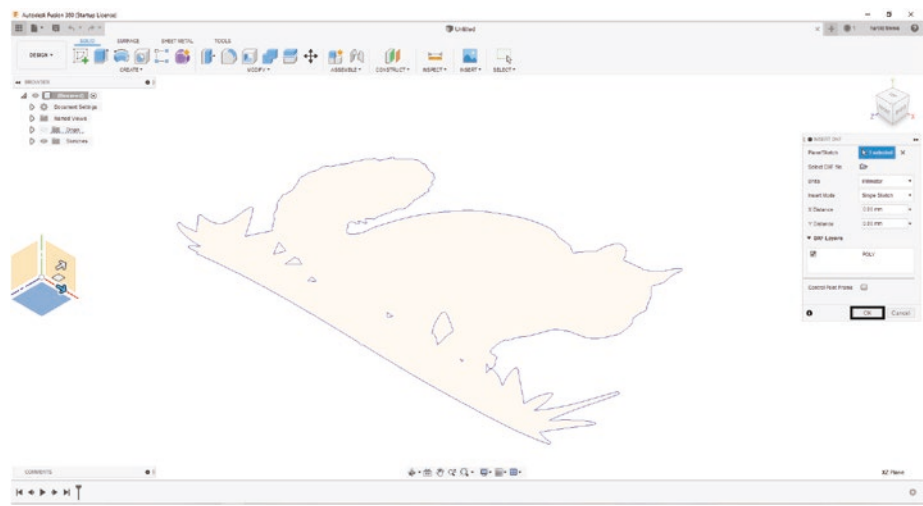

Figure 3-30. Click the “OK” button
6. Then click the “OK” button. See Figure 3-30.